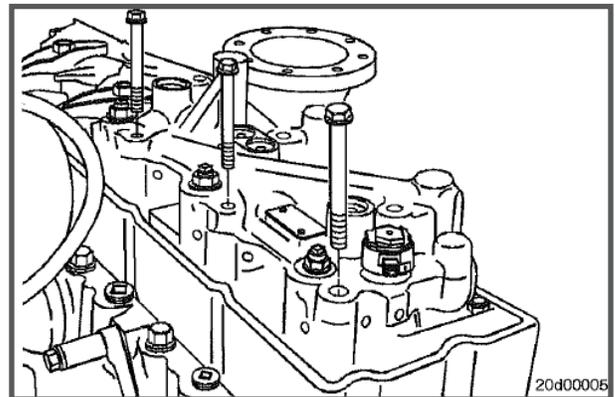

FIGURE 2
2. Back out each housing adjusting sleeve (26) until they are flush with the bottom of the housing.
4. Place three mounting bolts in the mounting bolt holes on the slave piston side of the brake housing (next to slave piston adjusting screws). Tighten the three bolts to 7 Nm [5 ft-lb]. See figure 2.